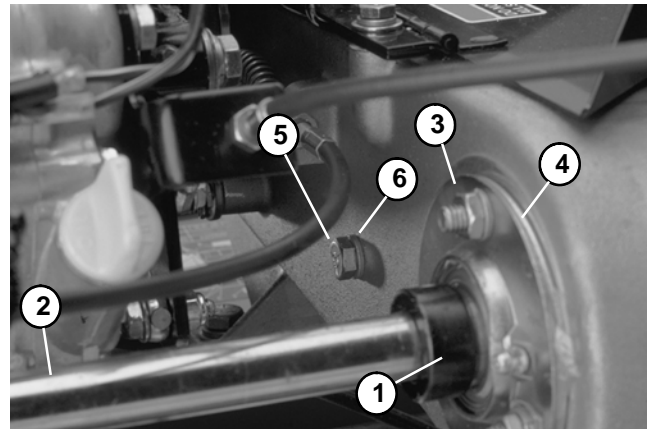
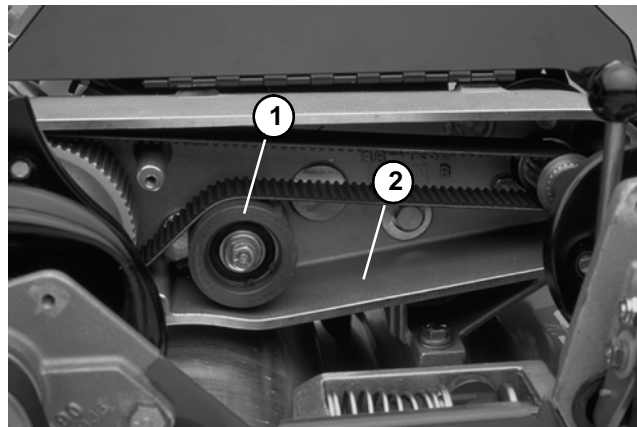

Figure 37
Figure 39
3. Remove cap screw and lock washer that secure the idler pulley (Fig. 37). Remove idler pulley from countershaft housing (Fig. 39).
2. Reinstall idler pulley to the countershaft housing (Fig. 39). Secure idler pulley with cap screw and lock washer. Tighten cap screw until washer just starts to compress. Spacer must be free to rotate (Fig. 37).
4. Loosen cap screw securing the idler to the countershaft housing (Fig. 37). Pivot idler pulley counterclockwise away from the backside of belt to release belt tension (Fig. 39).